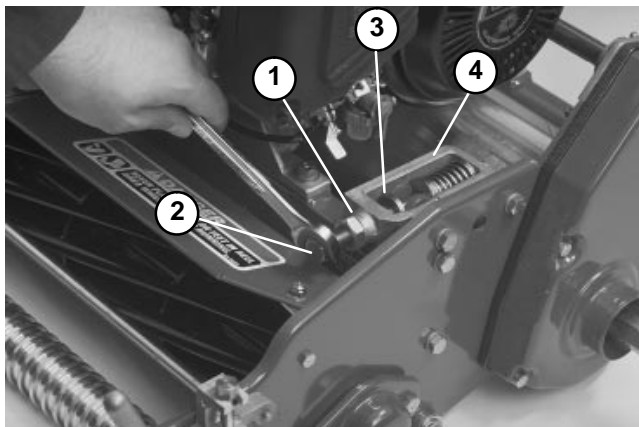

Figure 21
2. Loosen jam nut on the adjusting screw. Loosen adjusting screw until the thrust washer contacts the inside of the frame adjuster. Accomplish on both sides of the mower (Fig. 21).